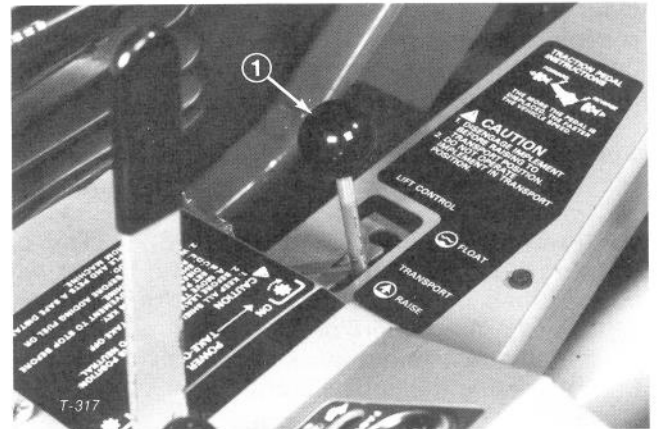
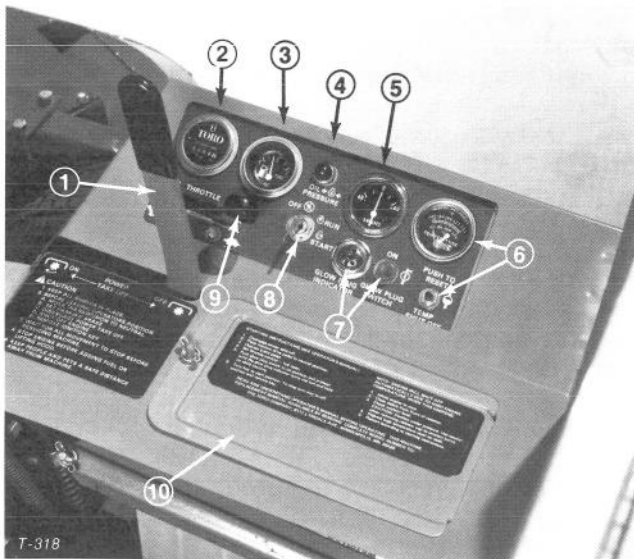

Figure 22
Figure 23
Lift Lever (Fig. 22) — The hydraulic lift lever has three positions: FLOAT, TRANSPORT and RAISE. To lower implement to the ground, move lift lever forward into notch, which is the FLOAT position. The FLOAT position is used for operation and also when machine is not in operation. To raise implement, pull lift lever backward to the RAISE position. After implement is raised, allow lift lever to move to the TRANSPORT position. Normally, implement should be raised when driving from one work area to another, except when descending steep slopes.
PTO Lever (Fig. 23) — The PTO lever has two positions: ON, engage and OFF, disengage. Slowly push PTO lever fully forward to ON position to start the implement or cutting unit blades. Slowly, pull lever backward to OFF position to stop implement operation. The only time PTO lever should be in the ON position is when implement or cutting unit is down in operating position.
Hour Meter (Fig. 23) – The hour meter registers accumulated hours of engine operation. Use the hour meter to determine intervals for service maintenance and lubrication.
Fuel Gauge (Fig. 23) – Indicates quantity of fuel remaining in fuel tank.
Oil Pressure Warning Light (Fig. 23) – The oil pressure warning light will glow and a buzzer will sound when oil pressure in engine drops below a safe level. If low oil pressure ever occurs, stop engine and determine the cause. Repair the damage before starting the engine again.
Ammeter (Fig. 23) – Ammeter shows charge rate of the battery by the alternator. When engine is running, there usually is a slight charge, unless engine is idling slowly. Needle will point to 0 when battery is fully charged. By contrast, alternator is not charging the battery when needle points to (-) negative side of ammeter, and if this happens, repair the charging system to prevent discharge of the battery.
Temperature Switch/Gauge and Reset Button (Fig. 23) – The temperature switch/gauge registers the temperature of the coolant in the cooling system. If temperature of coolant gets too high the engine will shut off automatically. When this happens, rotate ignition key to OFF. Automatic shut-off of the engine usually results from debris on front of screen or radiator, which reduces air flow. After cleaning outside of screen and radiator or repairing some other damage, press the reset button and start the engine.
Glow Plug Switch and Indicator (Fig. 23) – Use to preheat engine cylinders before and during starting procedures. Push switch lever upward and hold while watching indicator. Indicator will glow red when sufficiently heated. Length of time necessary to preheat cylinders should be determined by atmospheric temperature; refer to Starting/Stopping Engine, page 20.
Key Switch (Fig. 23) – The key switch, which is used to start and stop the engine, has three positions: OFF, RUN and START. Rotate key clockwise to the START position to engage starter motor. When engine starts, release key and it will move automatically to the ON position. To shut engine off, rotate key counterclockwise to the OFF position.
Throttle Control (Fig. 23) – Throttle is used to operate engine at various speeds. Moving throttle forward increases engine speed – FAST; backward decreases engine speed – SLOW. The throttle regulates the speed of the cutter blades or other implement components and, in conjunction with traction pedal, controls ground speed of the traction unit.
A 40 amp circuit breaker is also incorporated to protect the entire wiring circuit. A reset button is located on the lower side of the panel, which can be reached after removal of the battery cover (Fig. 23, 25). The button should be depressed if a total loss of all electrical functions should occur. However, the electrical system should first be checked to ascertain the reason for the malfunction.
1. Ensure parking brake is set, PTO lever is in OFF position (Fig. 23) and lift lever is in TRANSPORT or FLOAT position (Fig. 22). Remove foot from traction pedal and insure it is in neutral.
2. Move throttle control (Fig. 23) to full FAST position.
4. Turn key in key switch to START position (Fig. 23). Release key immediately when engine starts and allow it to return to RUN position. Move throttle control to SLOW position.